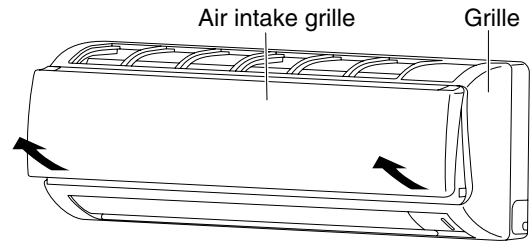

Fig. 3-22
- (1) Grasp both ends of the air intake grille, and remove it by opening towards the front and pulling towards you. (Fig. 3-22)